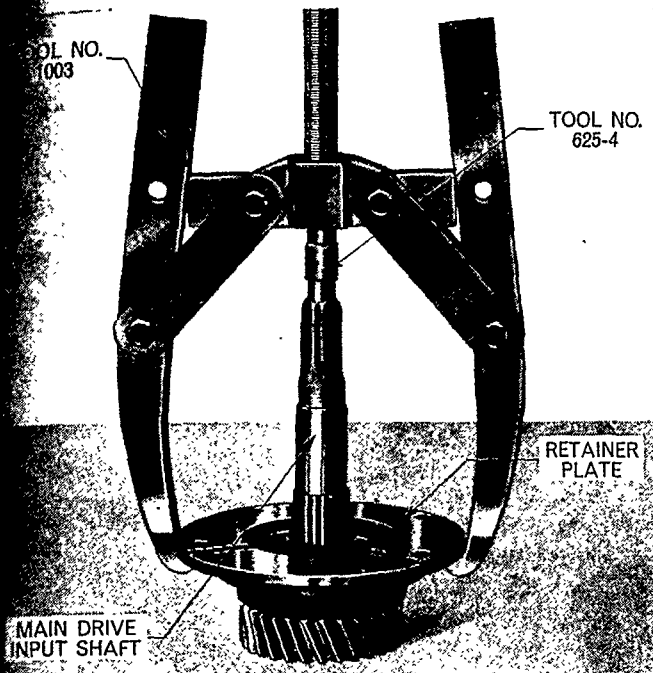

Figure 21
4. Use Tools Nos. 1003 and 625-4, Figure 21, to remove the rear bearing and retainer plate assembly.